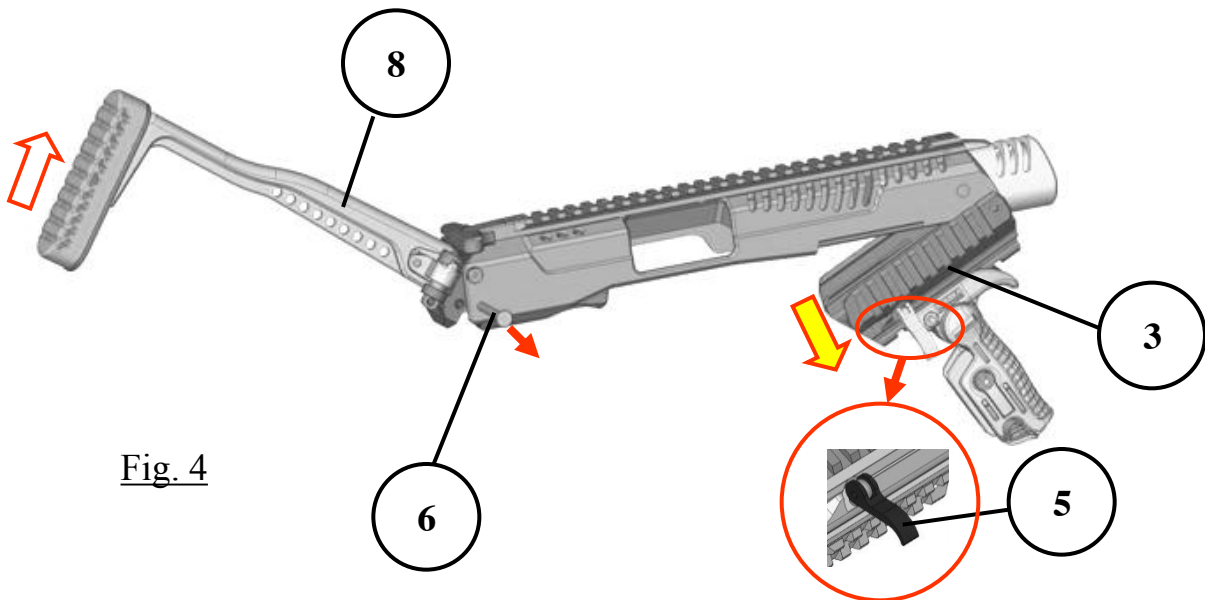

Fig. 4
Step 1. Open the Locking Lever (5) to the front and rotate to vertical position pointing down (Fig.4).